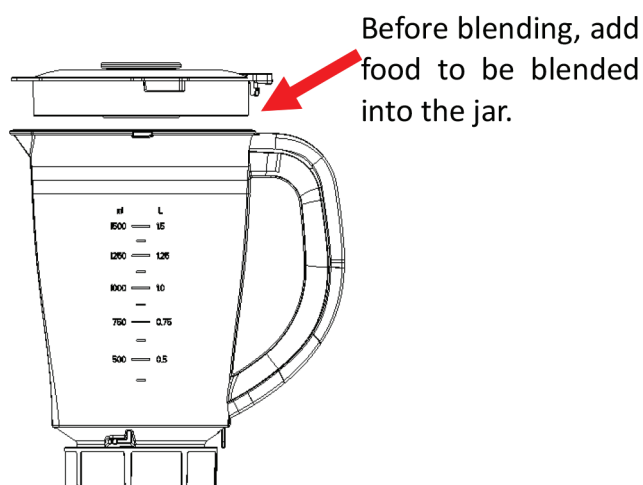

Fig.6
2. Place the food to be blended into the jar (See Fig.6) . Usually, certain amount of purified water has to be added to facilitate the smooth running of appliance.The amount of mixture should not exceed the max level as indicated on the jar.